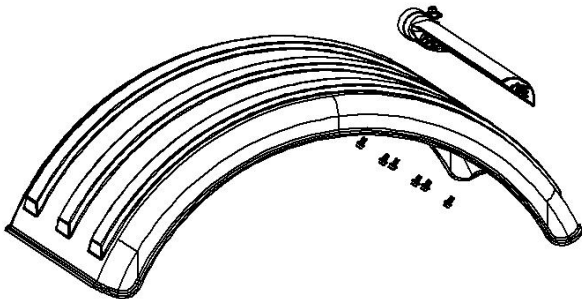

Figure 16
- With the bracket separated from the truck, install six 5/16" x 5/8" bolts and fender washers through the fender and into the bracket. **Turn each bolt approximately 2 full turns. Do not fully tighten.** See Figure 16 below.